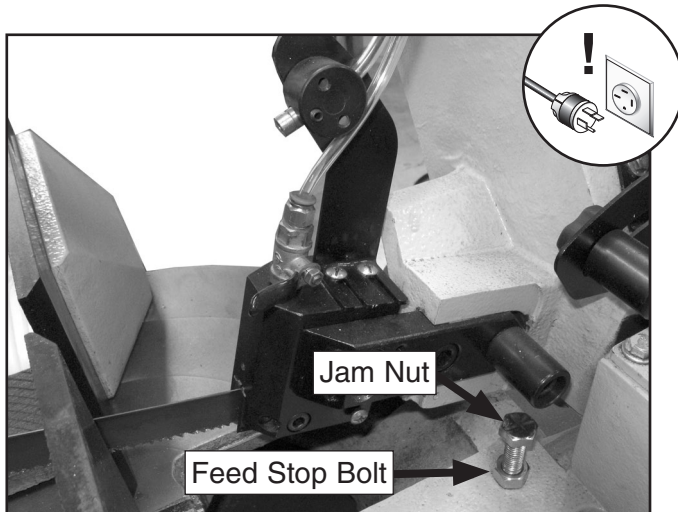

Figure 64. Feed stop bolt.
Adjust the feed stop bolt and jam nut (**Figure 64**), so the bandsaw blade teeth are just below the vise table surface when the cut is complete.
4. Connect the machine to power and lower the saw bow until it contacts the feed stop bolt (**Figure 64**).